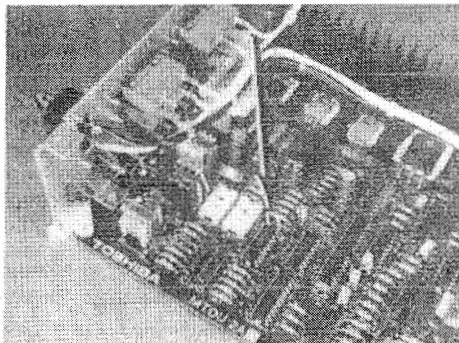

FIGURE 4
- Night relay service--the optional NR relay, if installed, will provide a dry contact at the NR terminals on the front of the MTOU PCB. The W3 strap option (Figure 4) on the MTOU allows the NR relay to function in one of two modes.